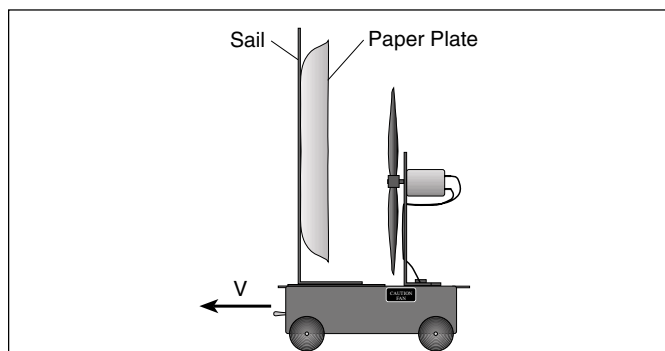

Figure 3: Fan Cart Sail with paper plate
- If you want to increase the effect of the air bouncing off the sail, tape a large paper plate to the sail as shown in Figure 3. The curvature of the paper plate will help reverse the direction of the air.